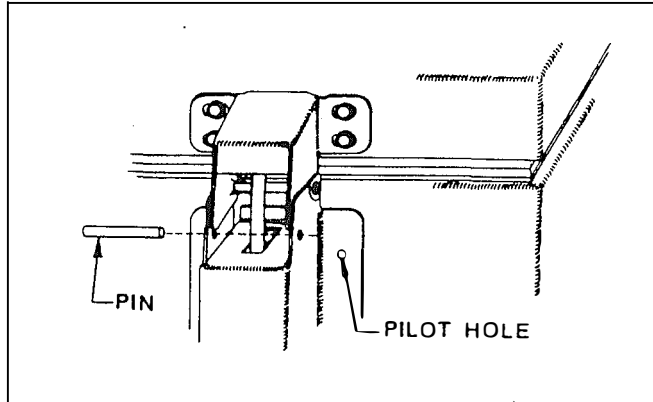

Figure A6 - Hinge Lock Pin
2. Insert a pin into the hinge holes as shown in Figure A6. A small Phillips type screwdriver or 16D nail work well as pins.